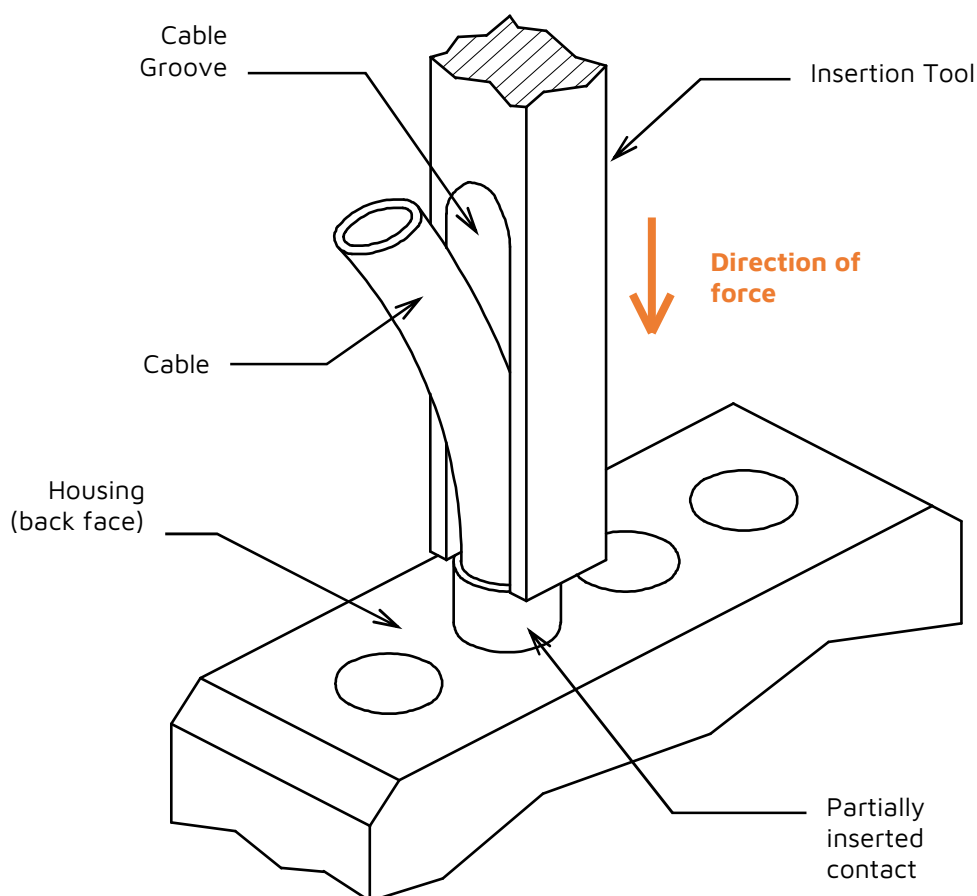

Figure 1
5. Place the insertion tool over the wire, with the wire sitting in the groove and the tool resting on the back of the crimped contact (see Figure 1).